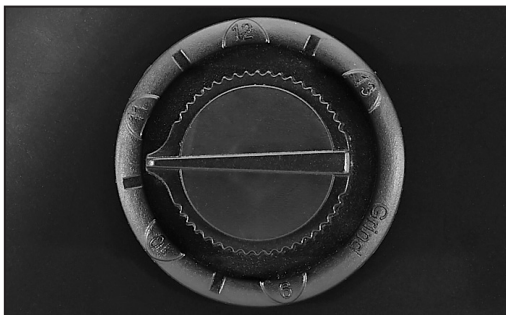

FIG. 7
- When welding current is large and the light of molten pool is very strong, you need to select the delay (7) to high, so you can avoid the eye injury by the light of molten pool.
- If you want to do spot welding, you need to put the delay (7) to low, so you can improve the work efficiency.
- Adjust delay (7) to middle place is suitable for most of welding projects.
7.4 WELDING/GRINDING/CUTTING FUNCTION – FIG.7